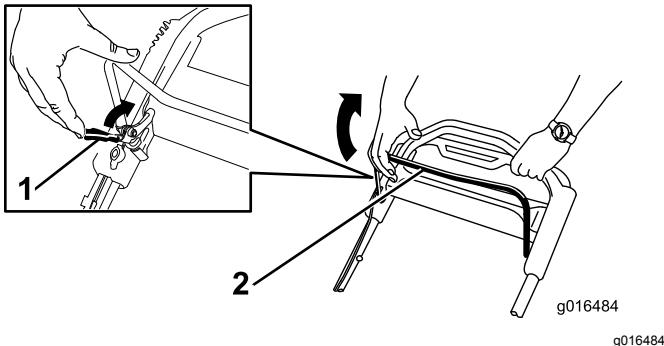

Figure 22
1. Pull the blade-control-bar lock back to the blade-control bar (Figure 22).
- Slowly pull the blade-control bar back to the handle (Figure 22).